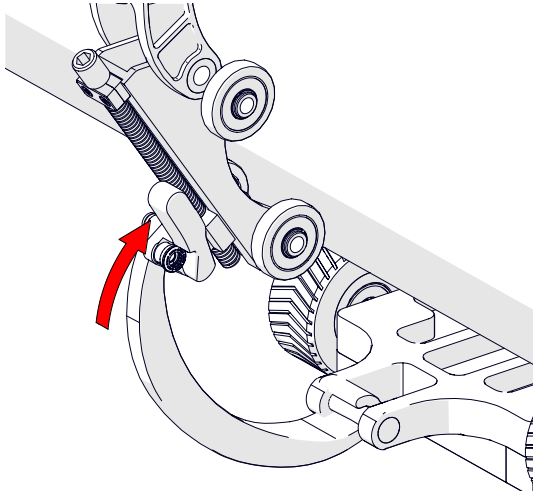

Fig. 75 - Press down to tighten chain system
12. Push the buckle lever down, locking the chain system in place (Fig. 75).